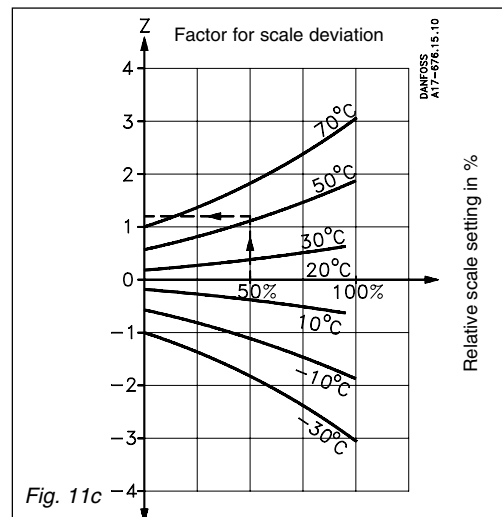

Fig. 11c
Z can be found from fig. 11c, while a is the correction factor from the table.
Factor for scale deviation (see fig. 11c): +1.2 (Z)